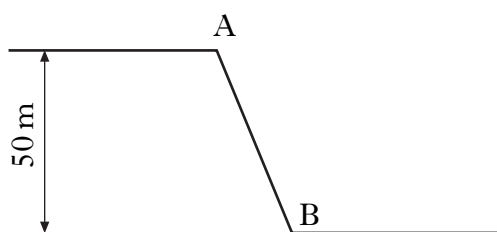

Figure Q11(a)
11. The maximum drop on a roller coaster is 50 m as shown in Figure Q11(a).